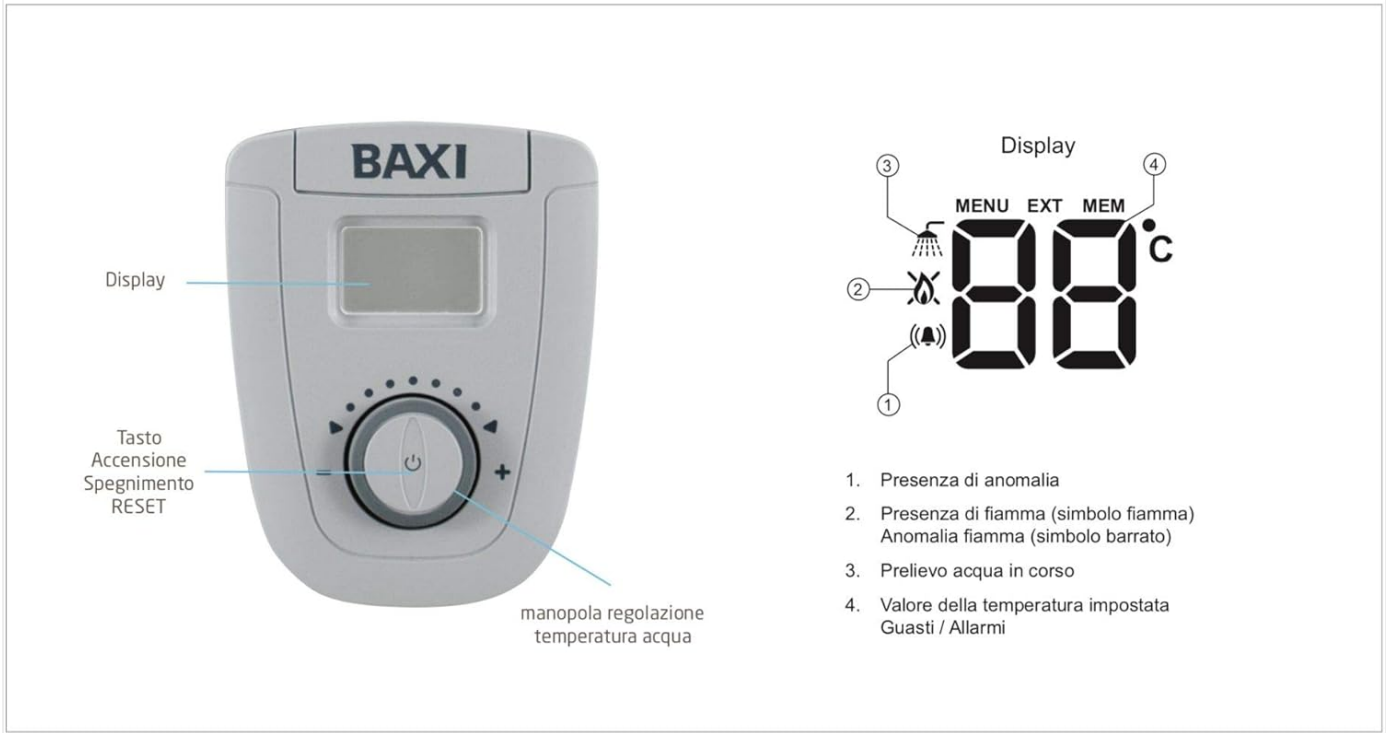

Figure 2: Detailed view of the control panel and display indicators.
- Power On/Off:** Press the central button on the control panel (Figure 2) to turn the appliance on or off.
- Adjusting Water Temperature:** Rotate the temperature adjustment knob (Figure 2) to set your desired hot water temperature. The LCD display will show the set temperature.